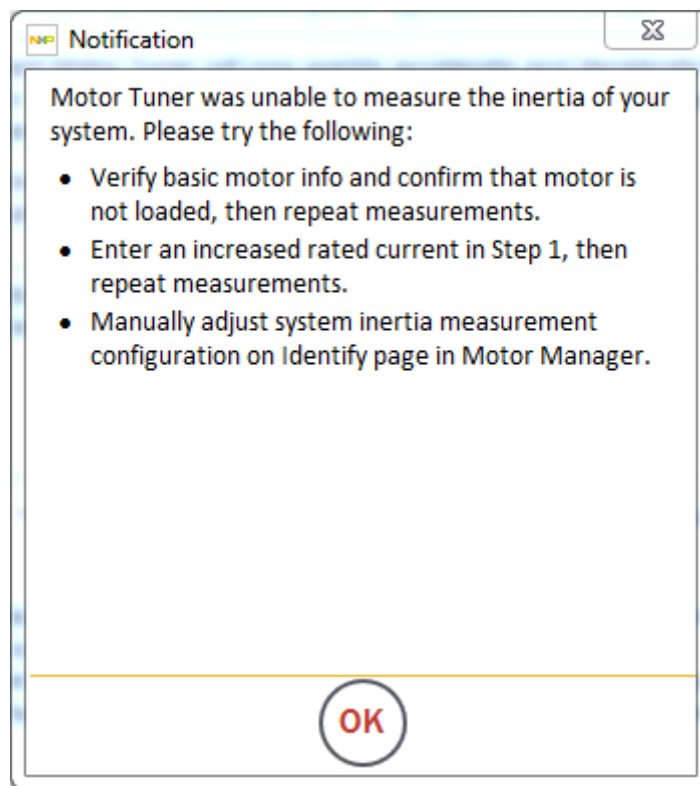

Figure 205. Failed inertia measurement
- Only after Motor Tuner has exhausted its adaptive configuration options does it declare an inability to complete the measurement (Figure 205).